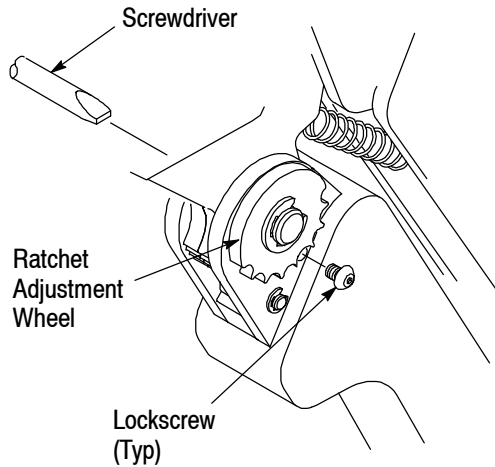

Figure 6
6. RATCHET (Crimp Height) ADJUSTMENT (Figure 6)